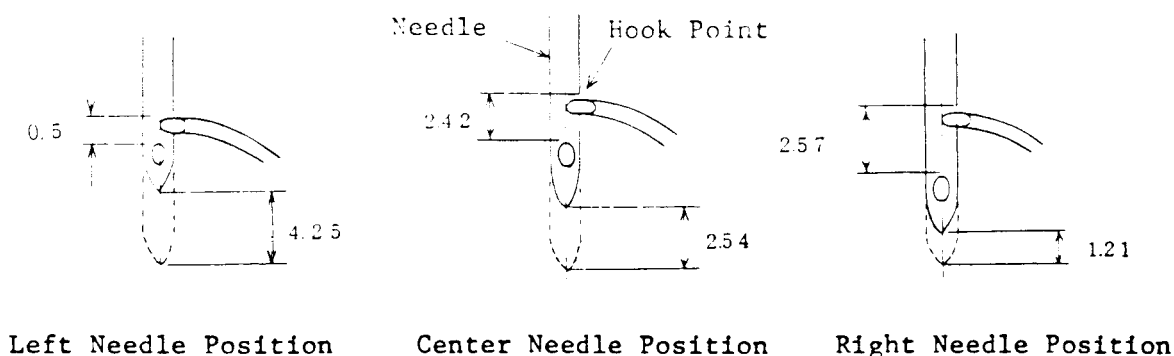

Fig. 2
2. Turn machine pulley over toward you until needle rises 2.54 mm from its lowest position and the lower timing mark is level with the underside of needle bar timing indicator plate. When the needle bar is in the above position, the point of rotating hook should be at the center of the needle as shown in Fig. 2.
2. Set stitch width regulator for straight stitching and check (visually) whether the relationship between needle and rotating hook is as shown in Fig. 2 (at center and left needle positions) just when needle rises from its lowest position.